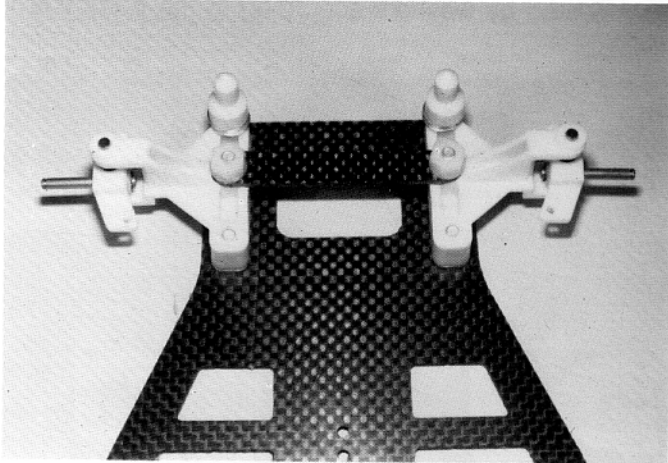

Fig. 10
□ **Figs. 10 & 11**—Your front end should now look like this.